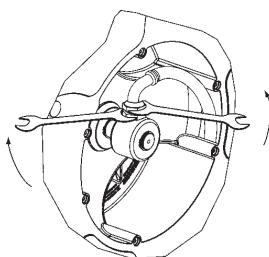

Fig. 16
- Unscrew the nuts with two spanners (Fig. 16).
- Con dos llaves, aflojar la manguera de la rótula (Fig. 16).